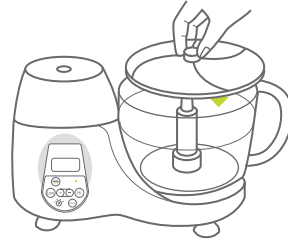

Fig. 26
2. place the feeder onto the blade shaft (b), (with the thinner end at the top) onto the central blade shaft (b) and check that it is firmly fixed in place the plates should be placed into the disc as show and clicked into place (will only fit one way) (Fig. 26)